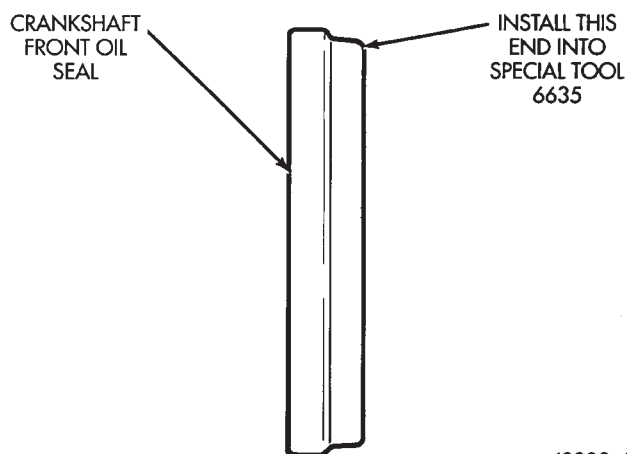

Fig. 24 Placing Oil Seal on Installation Tool 6635
(3) Using a new cover gasket, carefully install chain case cover to avoid damaging oil pan gasket. Use a small amount of Mopar Silicone Rubber Adhesive Sealant, or equivalent, at the joint between timing chain cover gasket and the oil pan gasket. Finger tighten the timing chain cover bolts at this time.
(4) Place the smaller diameter of the oil seal over Front Oil Seal Installation Tool 6635 (Fig. 24). Seat the oil seal in the groove of the tool.